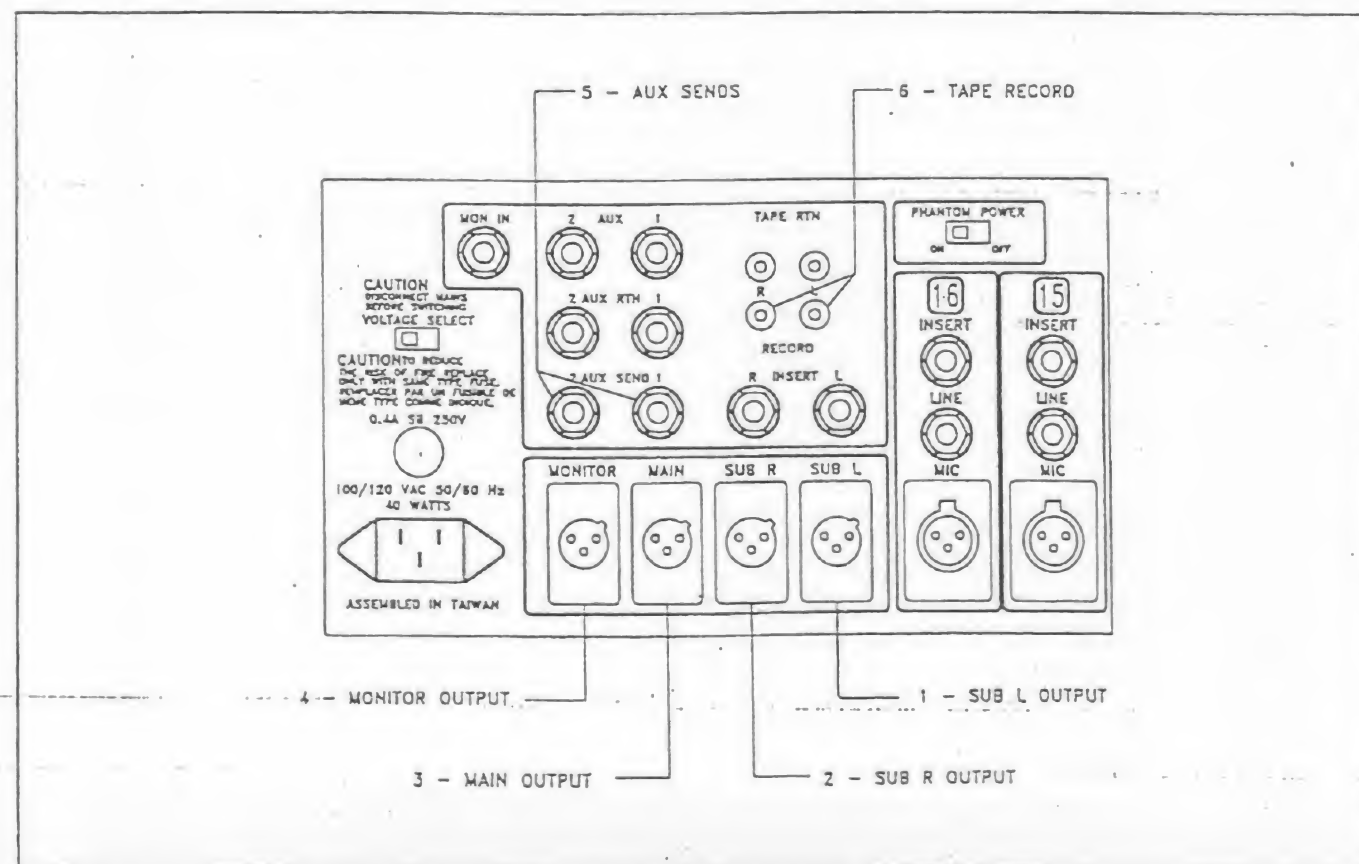

Figure 7: Rear Panel Output Connectors
3.4 Rear Panel Output Connections (Refer to Figure 7.)